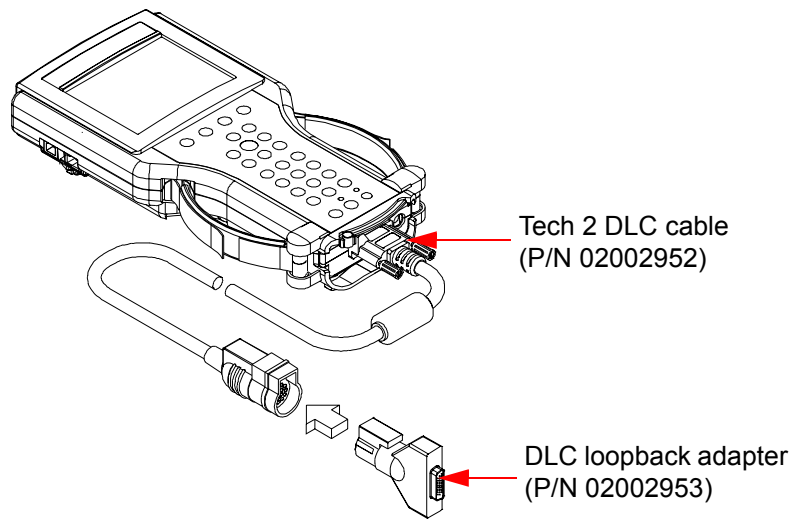

FIGURE 3-4. Connection of DLC Loopback Adapter to DLC Cable
3. Locate the DLC loopback adapter (P/N 02002953) in the storage case. Attach it to the DLC cable (Figure 3-4).